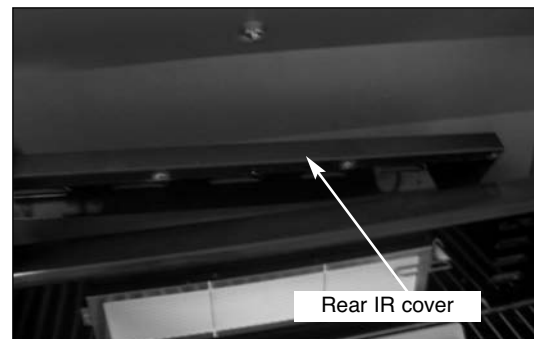

Fig 13
15. Take off the wind shield, grasp the rear infrared cover and remove it from the grill. (See Fig. 13)